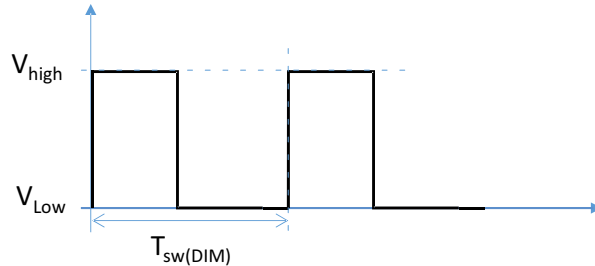

Figure 5. Dimming Signal
2. Set the waveform generator as follows: square signal waveform with $V_{high} = 10\text{ V}$, $V_{low} = 0\text{ V}$, 4 ms period ($T_{sw(DIM)}$), inverted polarity (see Figure 5). Set duty-ratio as indicated in below table.